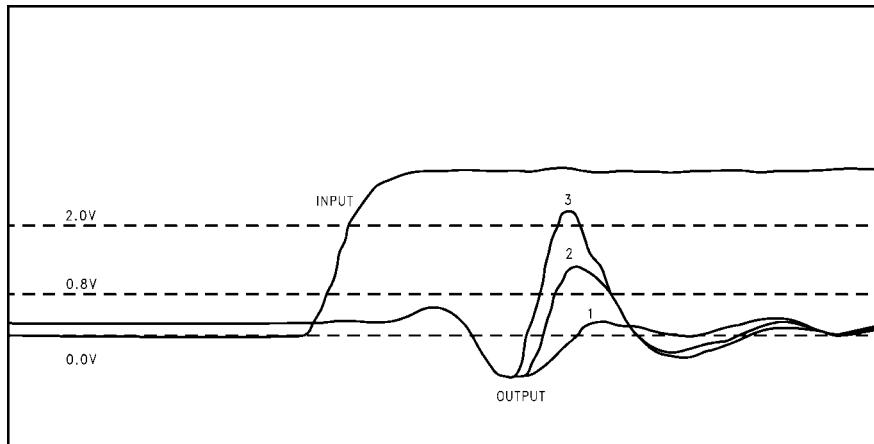
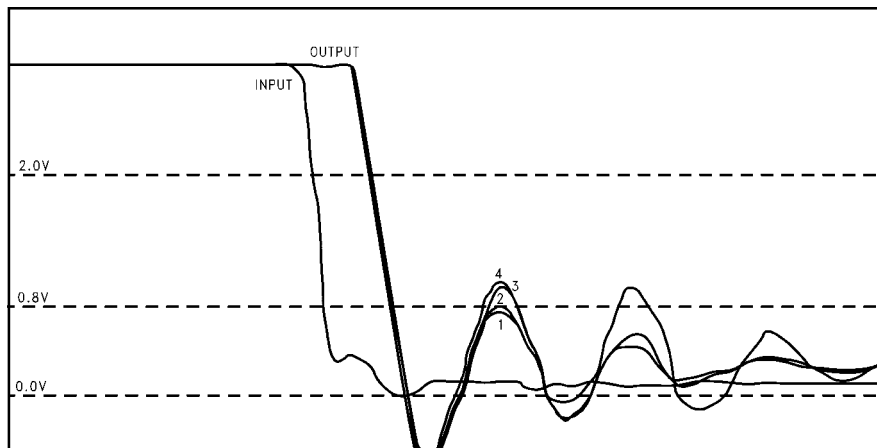

FIGURE 31. V_{ILD} 7 Outputs Switching
FIGURE 32. V_{ILD} 8 Outputs Switching
1. On a low output, the LOW level will not rise above an input threshold low level of 0.8V after the transition of the output. Figure 31 and Figure 32. Numbered output curve deflections are a result of 10 mV incremental changes on the low input signal level.